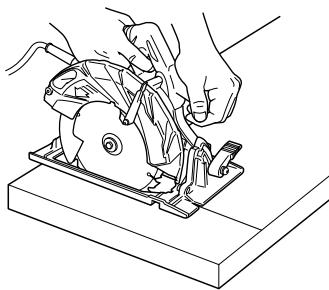
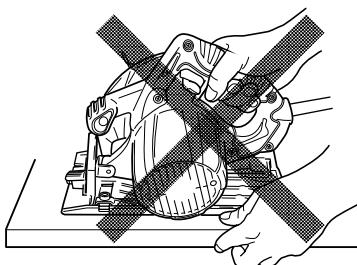

Fig. 11
Fig. 12
- Place the wider portion of the saw base on that part of the work piece which is solidly supported, not on the section that will fall off when the cut is made. As examples, Fig. 11 illustrates the RIGHT way to cut off the end of board, and Fig. 12 the WRONG way. If the work piece is short or small, clamp it down.